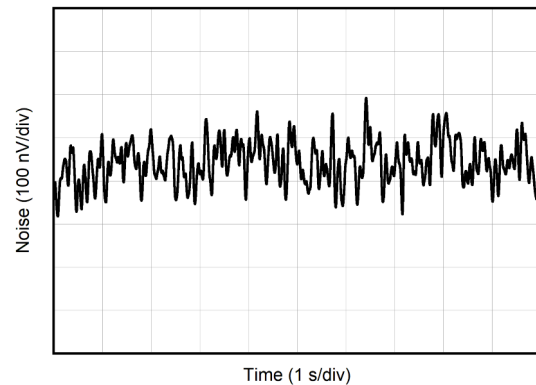

Figure 7-24. 0.1-Hz to 10-Hz Voltage Noise (RTI)
0.1-Hz to 10-Hz Voltage Noise (RTI), $G = 16\text{ V/V}$	Figure 7-24